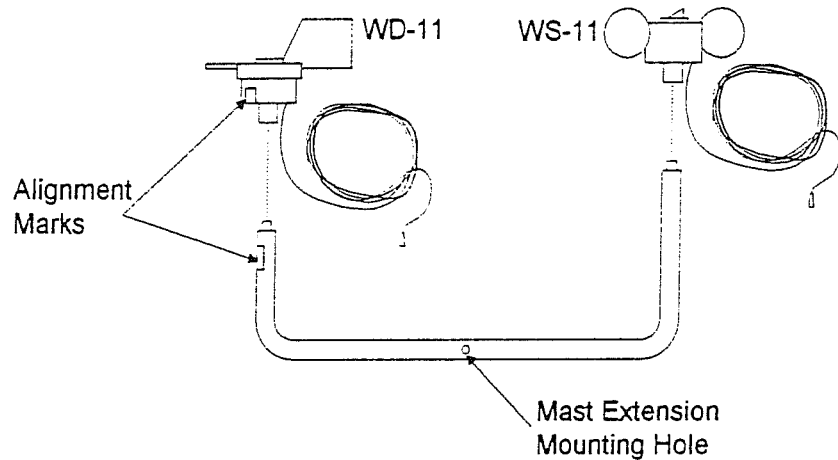

Figure 4-5
1. Place the WD-11 Wind Direction Sensor on its mounting post on the shorter side of the sensor support arm so that the alignment marks are lined up (see Figure 4-5).
2. Place the WS-11 Wind Speed sensor on its mounting post on the taller side of the support arm (see Figure 4-5).